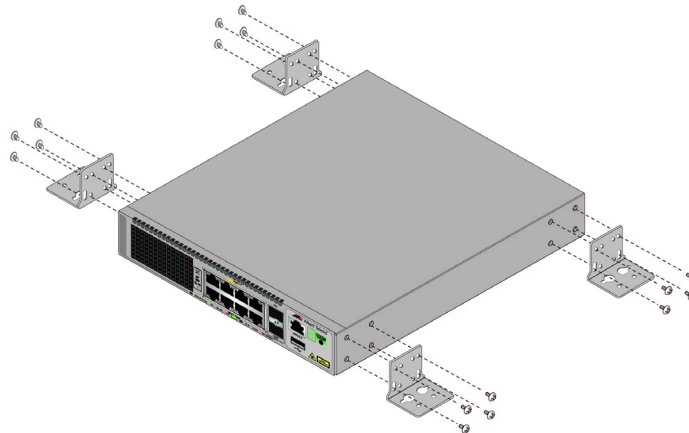

Figure 69. Attaching Wall Brackets to the x530L-10GHXm
3. For the x530L-10GHXm Switch, attach the four BRKT-J24 wall brackets with sixteen screws to the sides of the switch as shown in Figure 69.